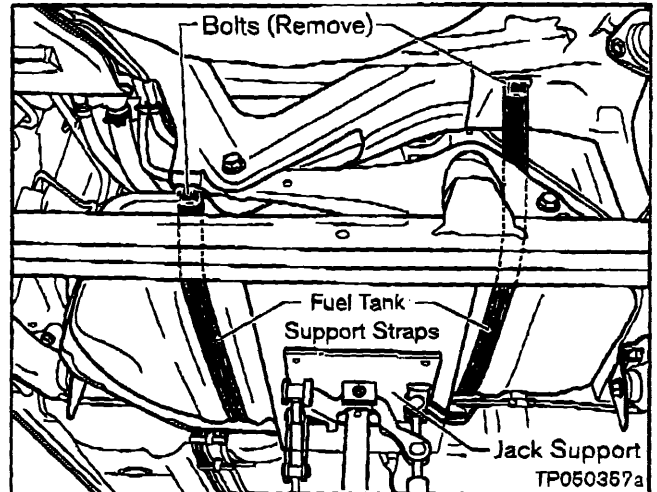

Figure 9
12. Place a suitable Jack under the Fuel Tank and then remove the two Bolts that secure the Fuel Tank Support Straps (see Figure 9).